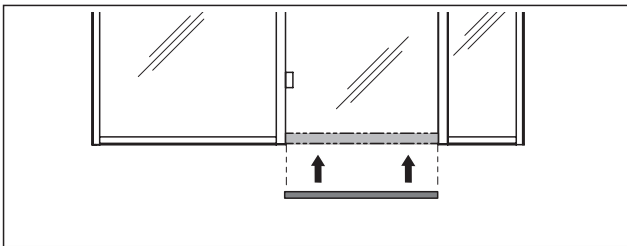

Fig. 16 Attach the covers to the opposite side to the hinge
13. Align the panel with the door's glass edges on the right and left on the opposite side to the hinge (Fig. 16).